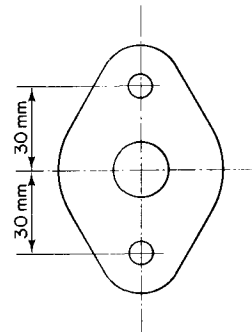

Fig. 3.97 Features positioned from centre-lines
**Centre-lines.** A centre-line is often used as one of the datum lines (see Fig. 3.97) and must be used when marking out the detail.